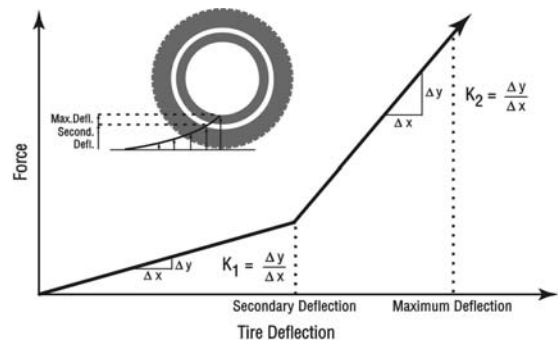

Figure 5: Force vs Tire Deflection curve.
- Broke a Rim? Occasionally a 3-D simulation, such as EDVDS, EDVSM or SIMON, will terminate with the message “Excessive Tire Deflection! (Broke a Rim?).” This typically occurs when a vehicle’s tire strikes a curb. To understand why the simulation terminated (and this message is issued) requires a basic understanding of how 3-D simulations calculate radial tire force. These simulation models begin by calculating the earth-fixed coordinates of the center of the wheel, then the earth-fixed coordinates of the “bottom” of the undeflected tire (“bottom” is defined in the direction of the radial tire vector normal to the terrain). The distance between these two earth-fixed coordinate positions is the tire deflection. Multiply the deflection by the tire’s radial stiffness and you have the radial force acting on the tire normal to the surface. Of course, the tire’s radial stiffness is not a simple linear constant. In fact, it is a 2-stage linear spring with a knee at about 80 percent of the tire’s section height (Figure 5).